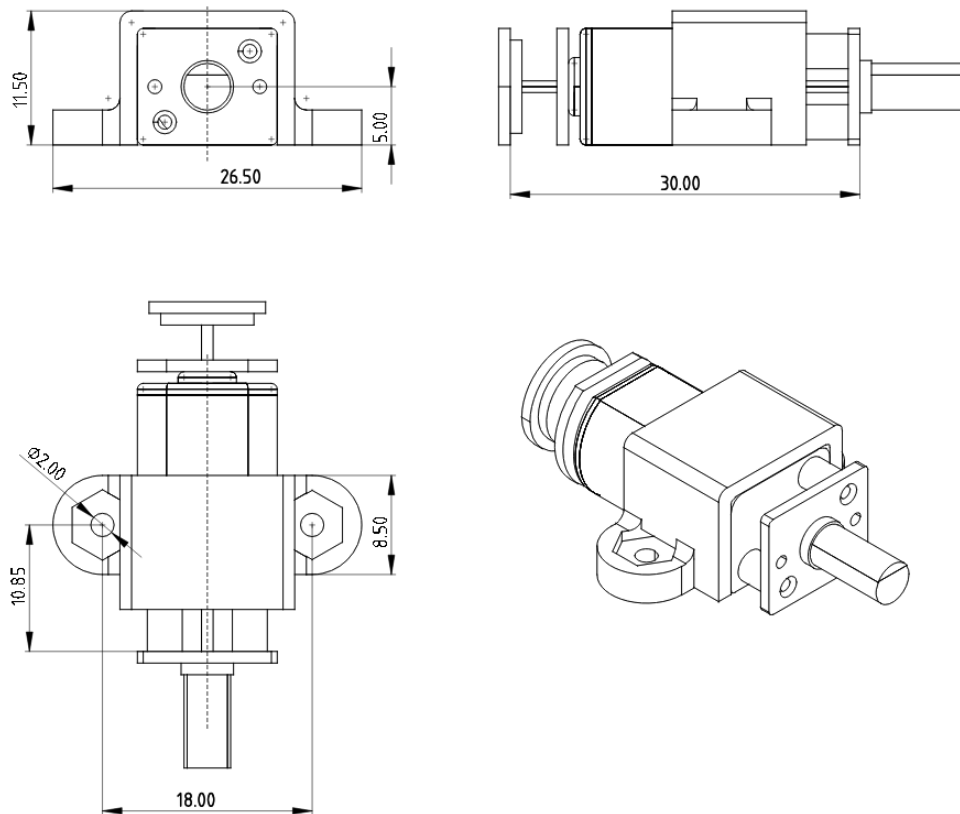

Figure 3.16 – FreeCAD drawing of N20 motor with encoder and bracket
Figure 3.16 is a dimensioned N20 motor sketch with an encoder and bracket. We'll align the bracket front with the gearbox middle divider so that the motor won't slide.
4. Dimension the left-hand motor using *Figure 3.16* for reference.